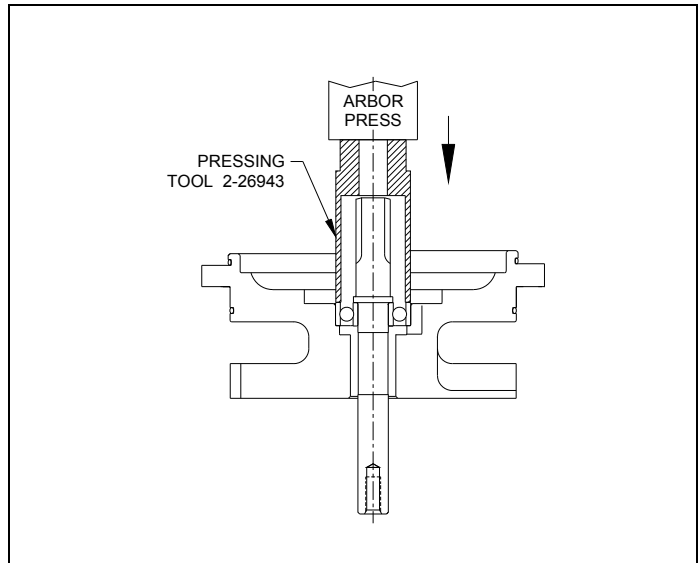

Figure 11. Turbine Bearing / Shaft Installation
Press the turbine bearing/shaft assembly (15,29) into the turbine housing (26). Use press tool P/N 2-26943 if required per figure 11. Do not press on the end of the shaft because the load could damage the bearing balls.